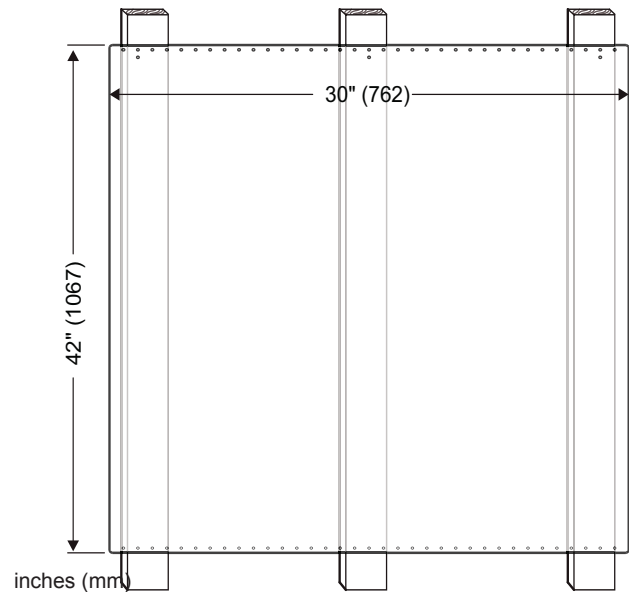

Figure 13: Backsplash Installation
3. Per each wall stud, use two (2) 1" (25.4 mm) Phillips head screws to secure both the top and bottom of the Backsplash (see Figure 13). Space screws evenly across top and bottom of Backsplash.